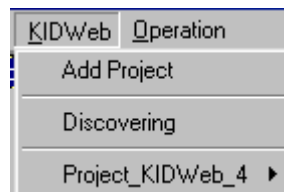

Fig. 4.8
- Click on **KIDWeb** menu – the drop-down list appears as shown in Fig. 4.8.